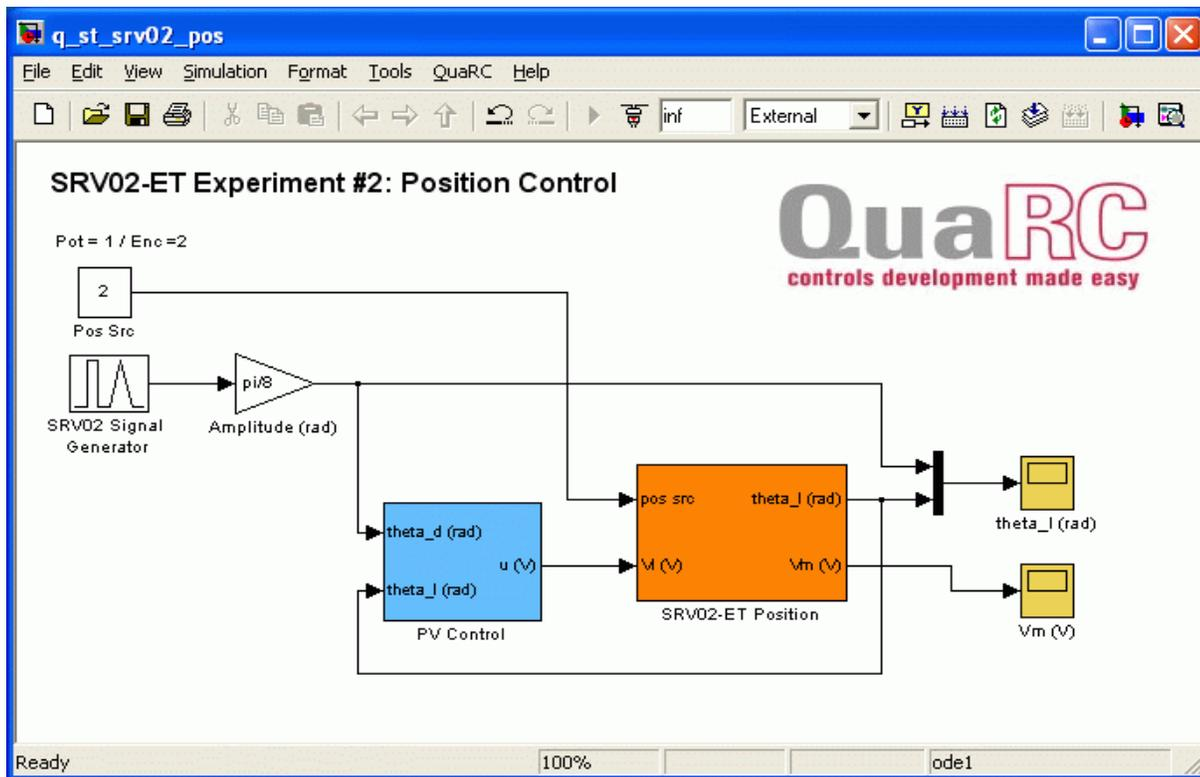

Figure 8: Simulink model used with QUARC to run the PV and PIV position controllers on the SRV02.
The *q_srv02_pos* Simulink diagram shown in Figure 8 is used to perform the position control exercises in this laboratory. The *SRV02-ET* subsystem contains QUARC blocks that interface with the DC motor and sensors of the SRV02 system, as discussed in Reference [7]. The *PV Control* subsystem implements the PV control detailed in Section 4.2.4.2, except a high-pass filter is used to obtain the velocity signal (as opposed to taking the direct derivative).
3. Double-click on the `q_st_srv02_pos.mdl` file to open the Simulink diagram shown in Figure 8.
5. **Configure Sensor:** The position of the load shaft can be measured using various sensors. Set the *Pos Src* Source block in `q_srv02_pos`, as shown in Figure 8, as follows: